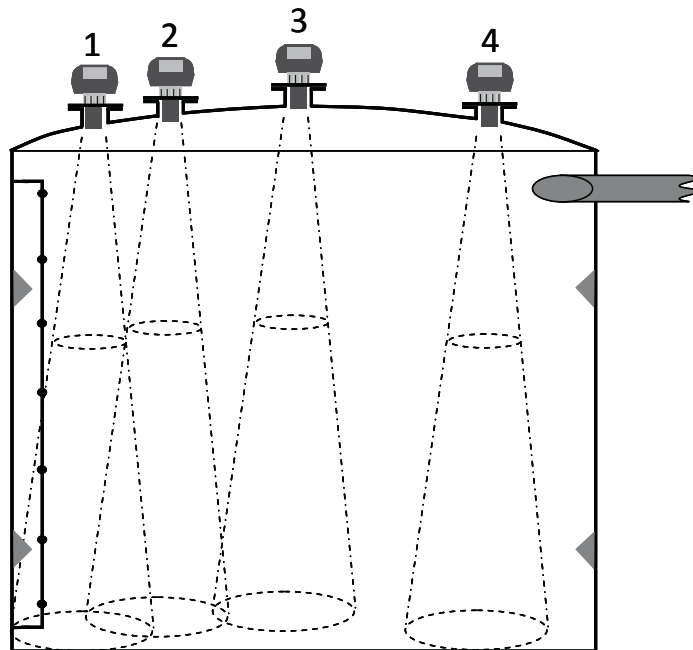

Figure 3.1
■ Parabolic top tanks pose several installation challenges: (refer to Figure 3.1)